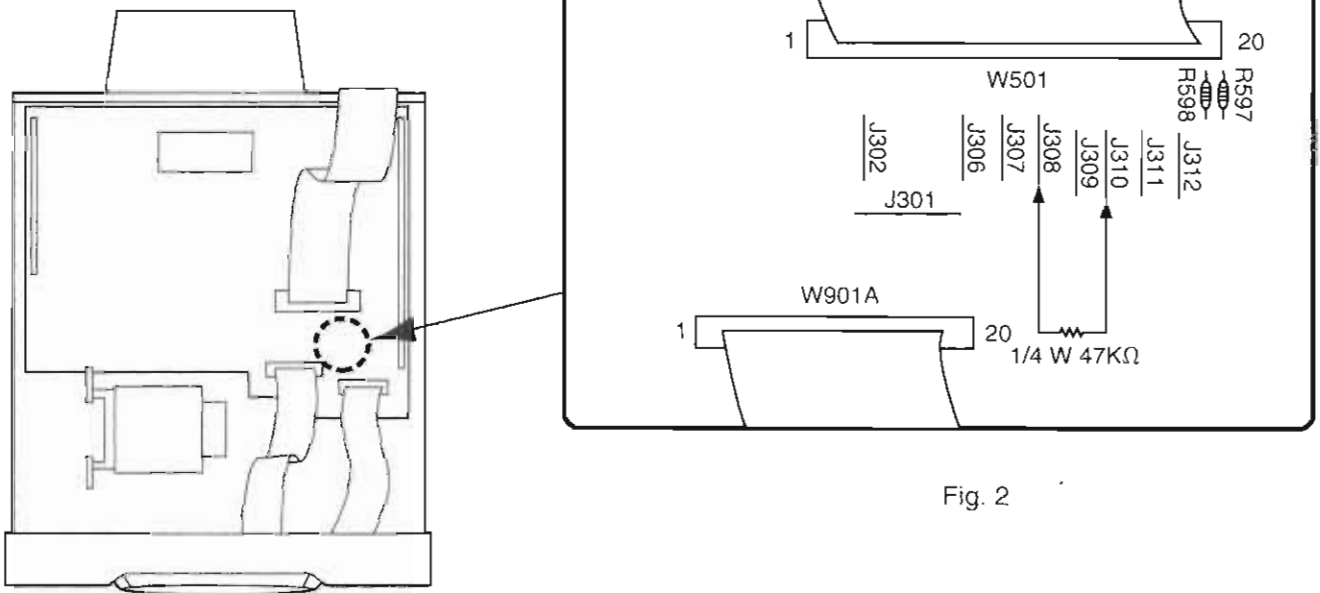

Fig. 2
1. Short the section between J308 and J310. (Refer to Fig. 2.)